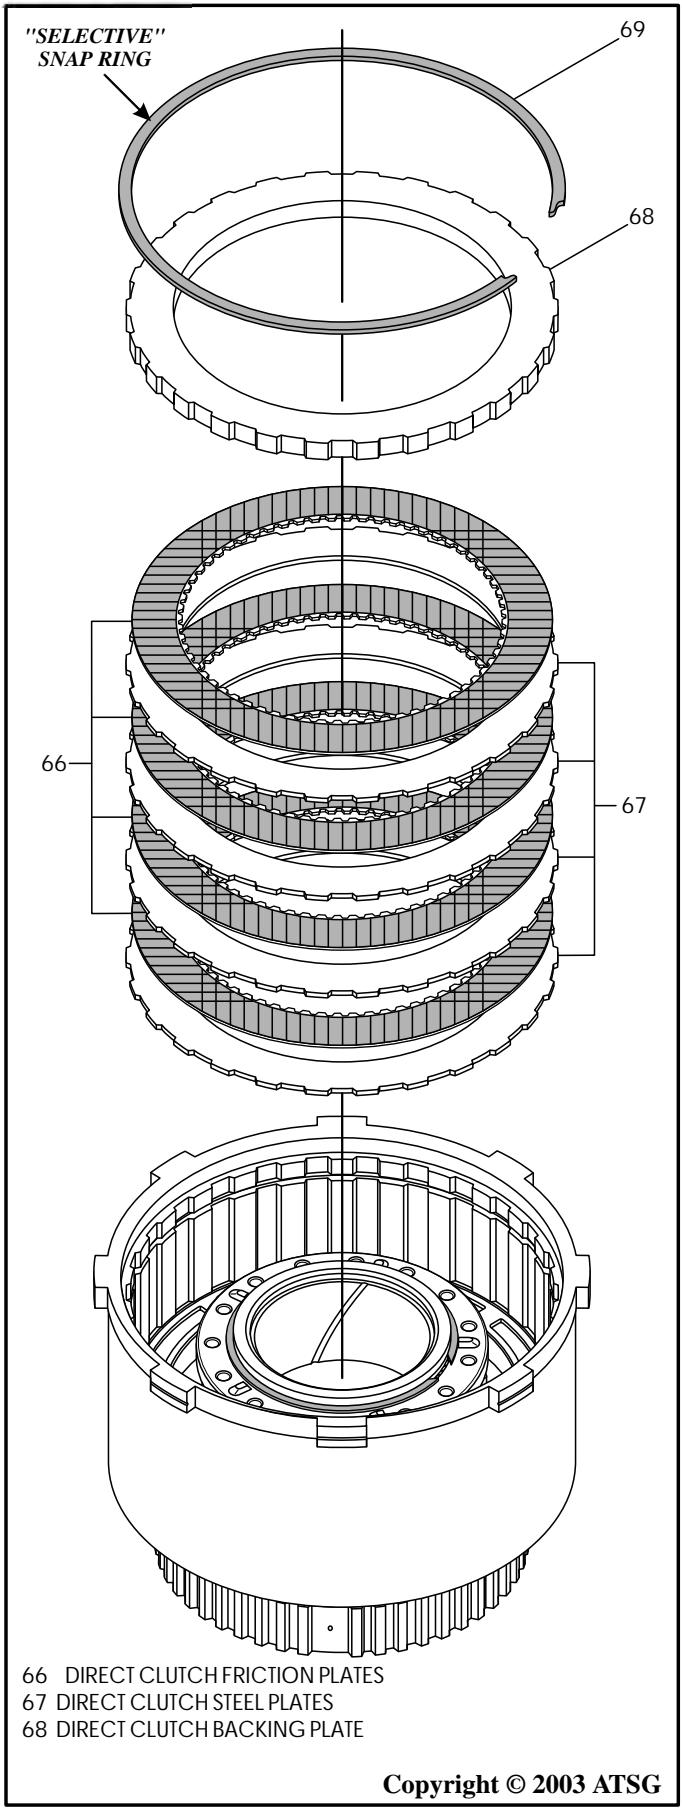

Figure 120
18. Install the direct clutch pack beginning with a steel plate and alternating with a friction plate, as shown in Figure 120, until you have proper amount of plates installed.
19. Install the direct clutch backing plate on top of the last friction plate, as shown in Figure 120.
20. Install the selective direct clutch backing plate snap ring, as shown in Figure 120, and ensure that it is fully seated.